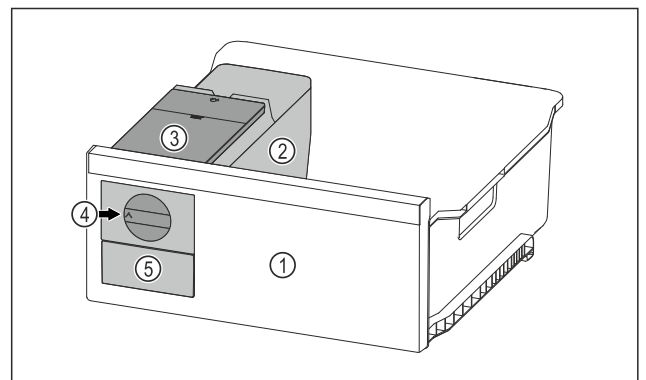

Fig. 97 Example illustration
- ▶ Turn the rotary knob Fig. 97 (4) clockwise as far as it will go.
- ▷ Ice cubes fall from the ice cube tray into the ice cube drawer Fig. 97 (5).